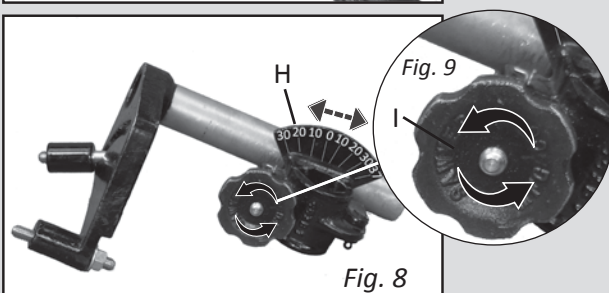

Fig. 8
- B. Bevel angle adjustment. (H, Fig. 8)
B-2. Adjust to desired bevel angle. (H, Fig. 8)